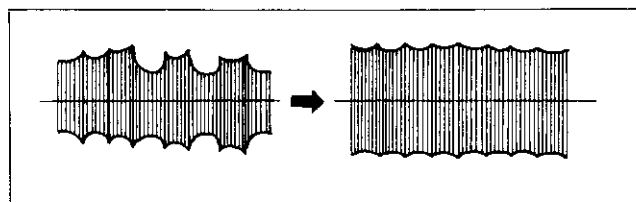

Fig. 5-3
3. Adjust T03 for the waveform shown in Fig. 5-3.